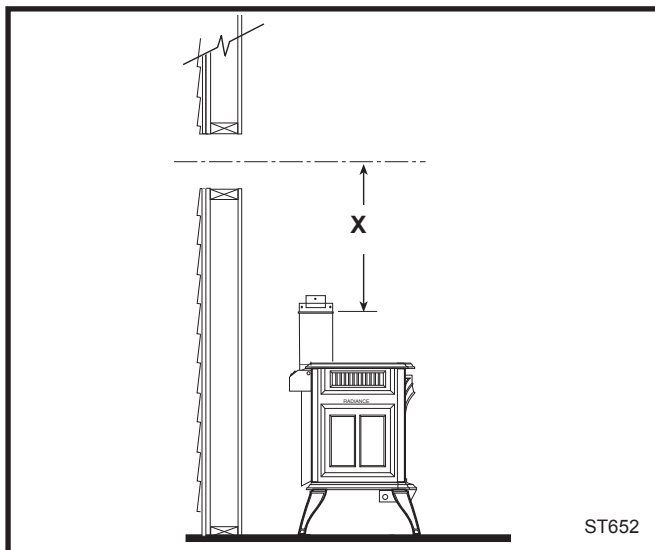

Fig. 26 Determine the vertical pipe length.
4. For CFM Vent Pipe only: If necessary, measure to determine the vertical length (X) of pipe required from the adapter pipe to the wall cutout centerline, including a 2" overlap at the joint. (Fig. 26) use a hacksaw or tin snips to trim the pipe as needed.